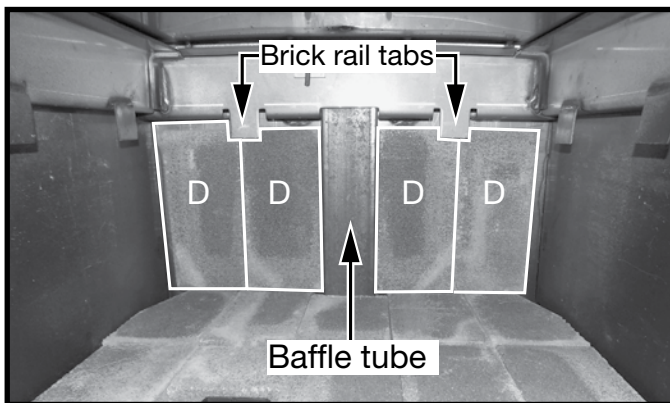

Figure 23: Rear wall bricks.
3. Slip 4 "D" bricks up behind the two protruding brick rail tabs along the rear wall (Figure 23). Eliminate any gaps between the bricks by shifting the bricks in toward the baffle tube.